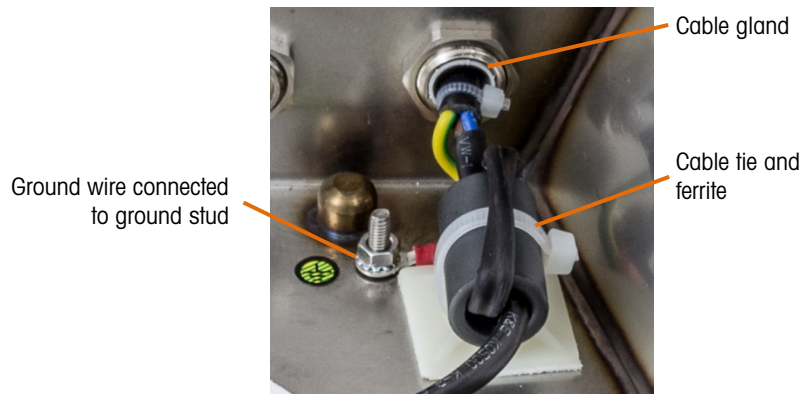

Figure 2-13: Original Location of Power Cord
- b. Snip the cable tie holding the power cord ferrite to the housing (indicated in Figure 2-13).